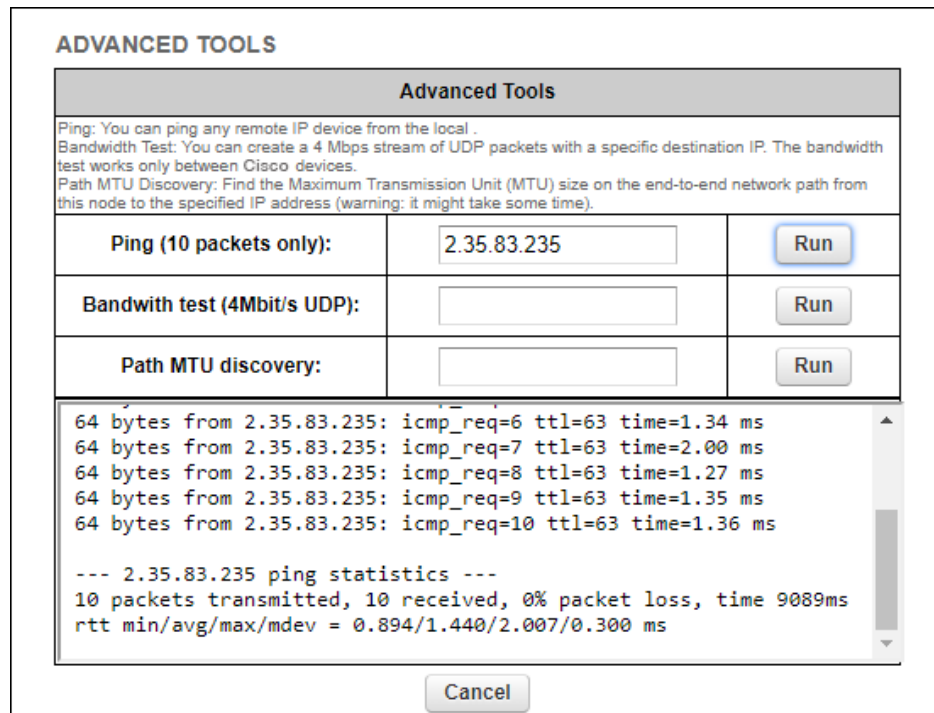

Figure 29. Advanced Tools window (Ping test tool)
2. Enter the IP address of the other unit in the **Ping (10 packets only)** field (Figure 29 \(page 98\)).